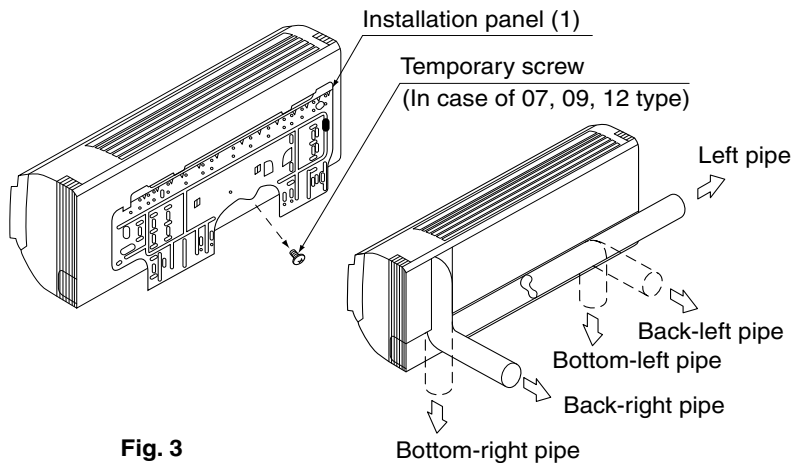

Fig. 3
(1) Open the piping through-hole.
- The refrigerant pipe and drain pipe can be passed out in one of 5 directions: left, bottom-left, back-left, bottom-right, and back-right. **(Refer to Fig. 3)**
- Using the paper pattern for installation (3), choose where to pass the piping out and open a through-hole ($\phi 3\text{-}1/8''$) in the wall.
(Refer to Fig. 3)